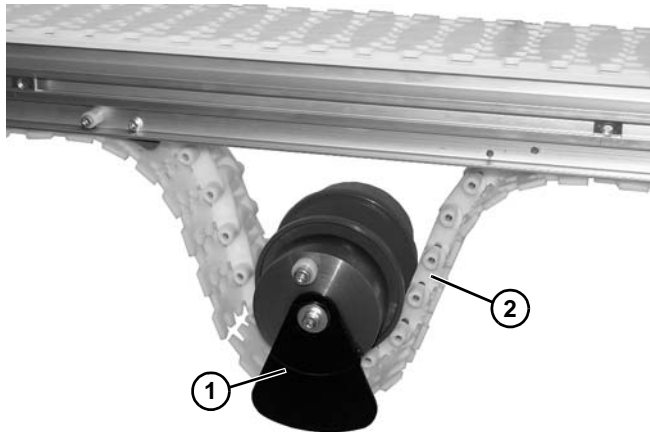

Figure 151
5. Remove idler pulley assembly (Figure 151, item 1) from belt (Figure 151, item 2).